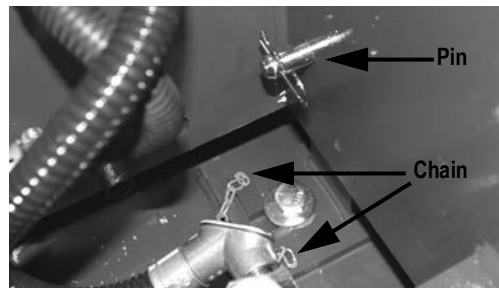

Figure 2-7. Hitch Pin and Chain
4. Remove hitch pin that holds the stand up (see Figure 2-7).
5. Lift stand up with chain located inside load cell pocket (see Figure 2-7).